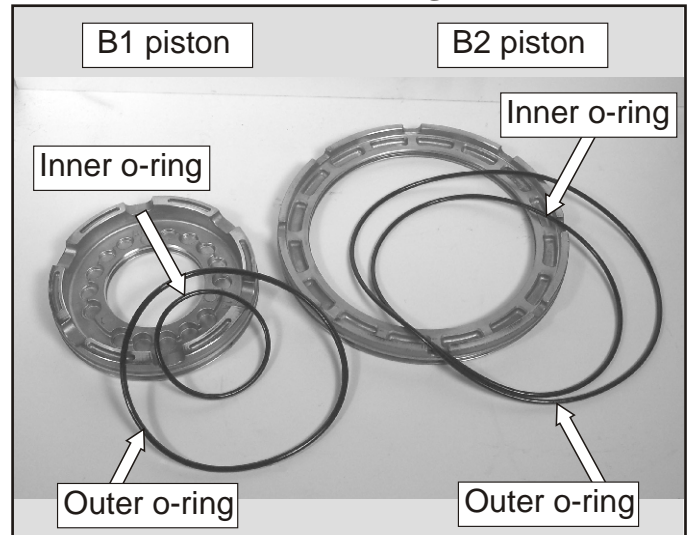

Figure 116
- 64. Replace the inner and outer B1 and B2 piston o-rings as shown in Figure 116.